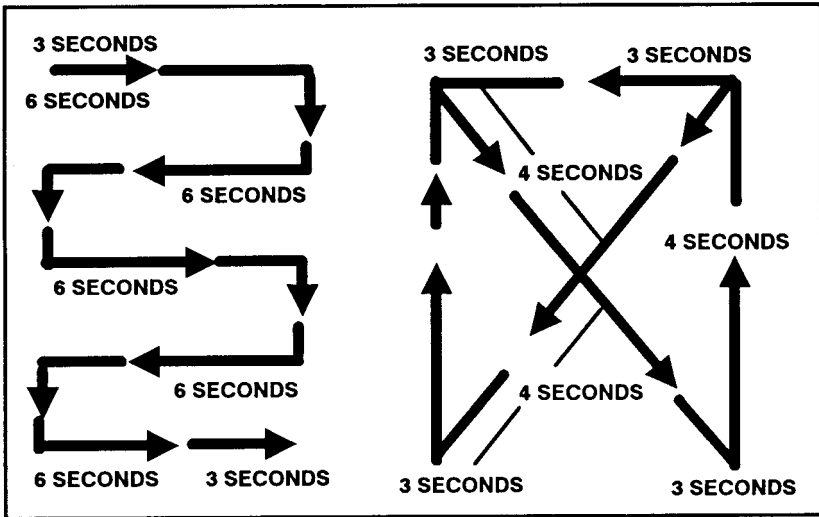

Figure A-2. Typical scanning pattern.
a. **Night Vision Scanning.** Dark adaptation is only the first step toward making the best use of night vision. Scanning enables soldiers to overcome many of the physiological limitations of their eyes. It can also reduce confusing visual illusions. This technique involves looking from right to left or left to right using a slow, regular scanning movement (Figure A-2). At night, soldiers must avoid looking directly at a faintly visible object when trying to confirm its presence.